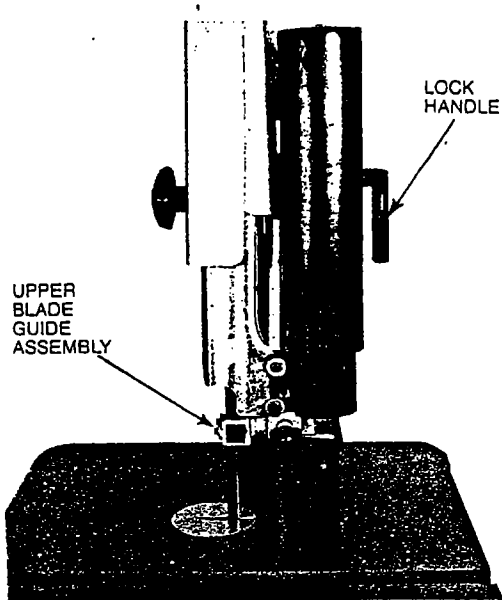

FIGURE 18
1. Set upper blade guide assembly as closely as possible to top of stock. To do so, swivel lock handle (Figure 18), moving guide assembly into position.